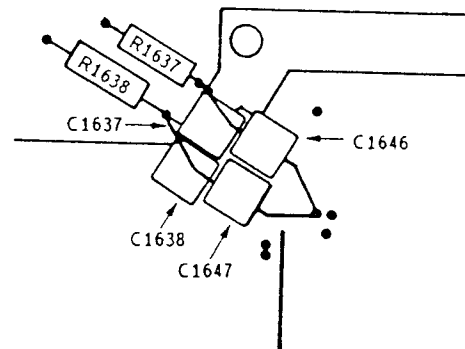

Fig. 4-27. Backside RC Combo
1. The "backside" RC combo is located on the back of the board under the stripline shield (see Fig. 4-27). Access is gained by removing the CRT and the shields on the back of the main board. (See *Maintenance* section for CRT removal.)
2. Note that the resistors of the backside combo can be checked from the top side of the main board. If replacing these components, make sure they are dressed (see Fig. 4-27) and securely fastened to the main board with Humiseal (Tek Part No. 006-1744-00) to prevent microphonics.